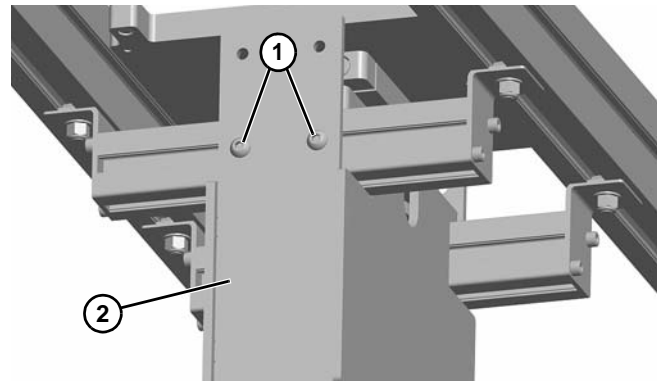

Figure 121
2. If installed, remove button head screws (Figure 121, item 1) and optional guard kit (Figure 121, item 2).